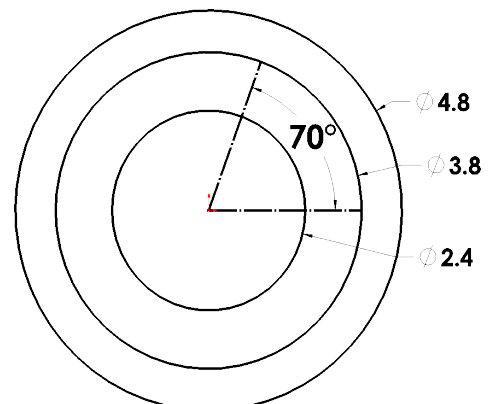

Fig. 3
Step 2. Starting from the Origin  draw **two centerlines** out to the middle circle. Keep **one horizontal** and the other at angle, **Fig. 3**. To terminate chain, double click back on the line you have just drawn.
Step 3. Click **Smart Dimension**  (S) on the Sketch toolbar.
Step 4. Dimension angle **70°**, **Fig. 3**.